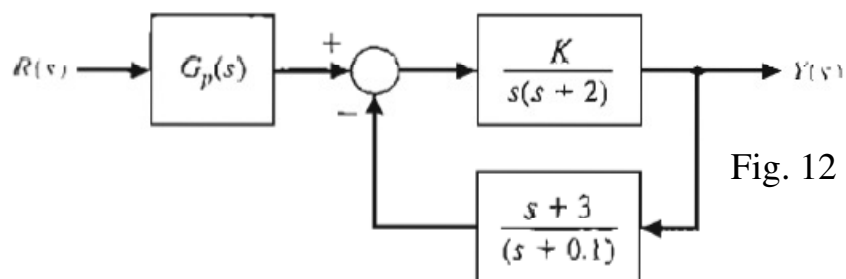

Fig. 12
17. For the control system shown in Fig. 12, Determine the steady-state error for a unit step when $K = 0.4$ and $G_p(s) = 1$. Select an appropriate value for $G_p(s)$ so that the steady-state error is equal to zero for the unit step input.